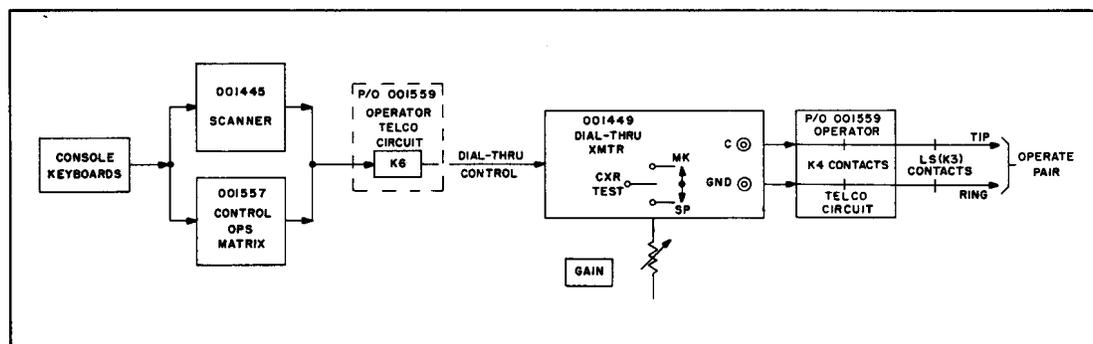

Figure 12 - Block Diagram of Components Comprising Master Station's Dial-Thru/In-Dial Channel
3.08 DIAL-THRU/IN-DIAL CHANNEL - Figure 12 shows the cards involved in dial-thru and in-dial operation. Follow this procedure when troubleshooting: